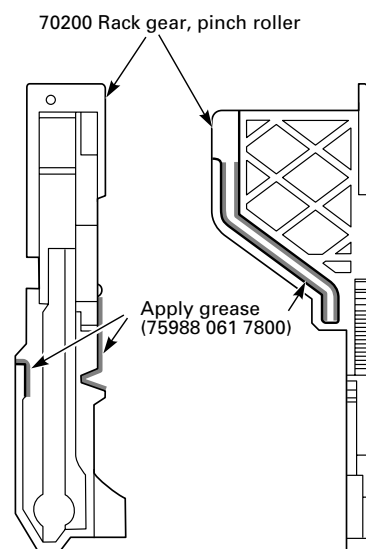
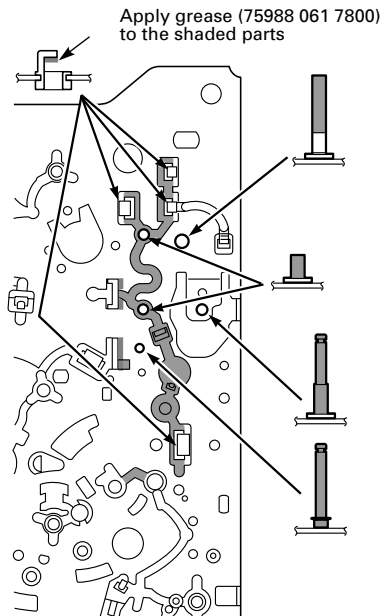

Fig. 8.32
Fig. 8.35
- Always use the grease with part number **75988 061 7800** for lubricating the mechanical parts of the threading roller units and follow the lubrication instructions given in Fig. 8.32 – Fig. 8.35!